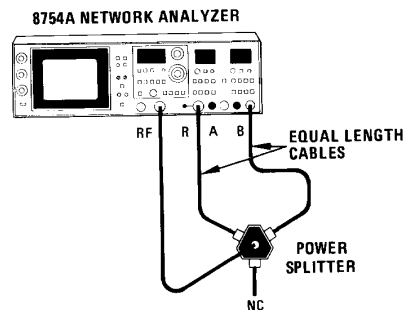

Figure 5-24. IF Filter Adjustment Test Setup
a. Connect equipment as shown in Figure 5-24. Set 8754A controls as follows:
- f. Turn LINE switch on. Connect equipment as shown in Figure 5-24. Set 8754A controls as follows: